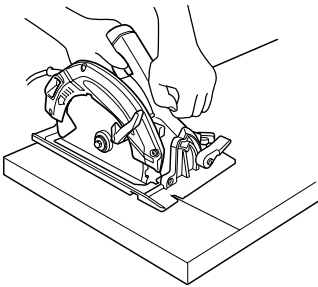
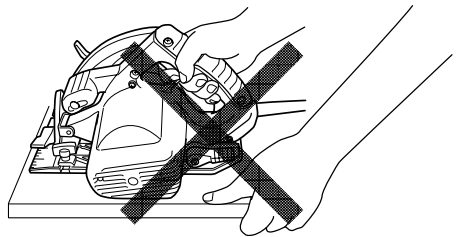

Fig. 5
Fig. 6
22. **Place the wider portion of the saw base on that part of the work piece which is solidly supported, not on the section that will fall off when the cut is made.** As examples, Fig. 5 illustrates the RIGHT way to cut off the end of board, and Fig. 6 the WRONG way. If the work piece is short or small, clamp it down. **DON'T TRY TO HOLD SHORT PLACES BY HAND!**